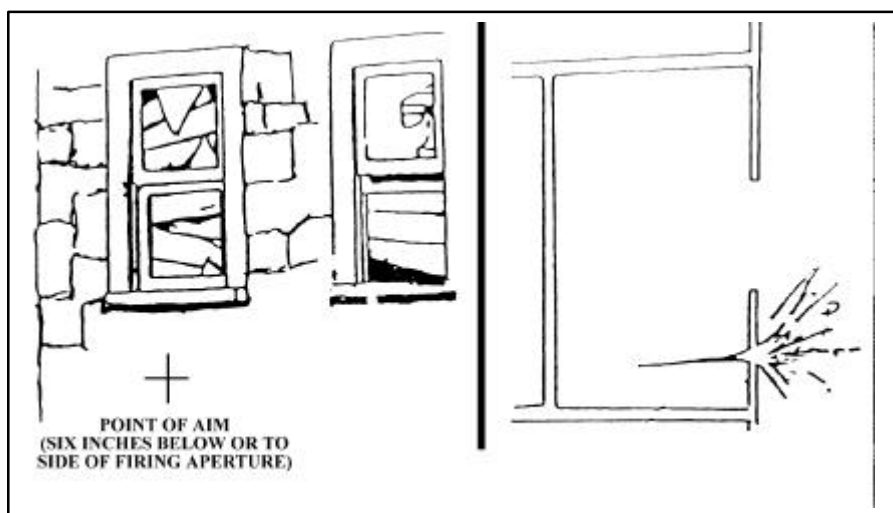

Figure B-2. Point of Aim for a Shaped-Charge Weapon Against a Masonry Structure
(1) Light and medium recoilless weapons with the exception of the SMAW employ shaped-charge warheads. As a result, the hole they punch in walls is often too small to use as a loophole. The fragmentation and spall that these weapons produce are limited. Normally, shaped-charge warheads do not neutralize enemy forces behind walls unless they are located directly in line with the point of impact.
(2) Against structures, shaped-charge weapons should be aimed about 6 inches below or to the side of a firing aperture (Figure B-2). This enhances the probability of killing the enemy behind the wall. A round that passes through a window wastes much of its energy